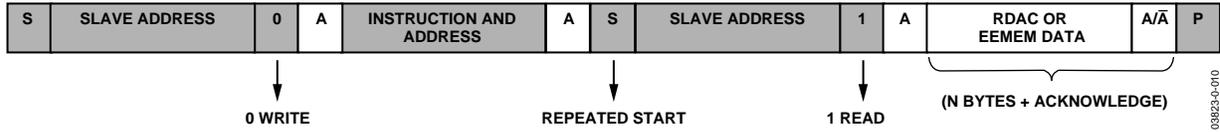
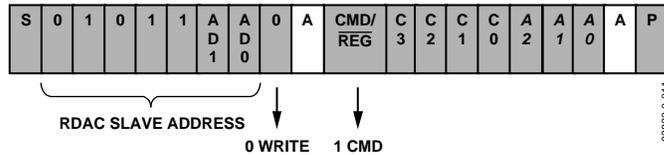
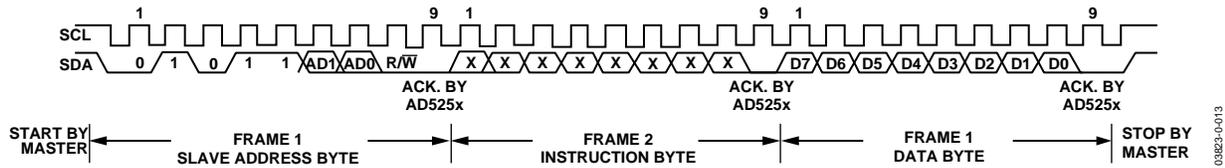
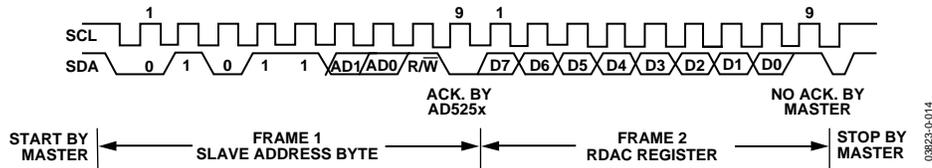

Figure 30. RDAC or EEMEM Random Read
Figure 31. RDAC Quick Command Write (Dummy Write)
Figure 33. General I²C Write Pattern
Figure 34. General I²C Read Pattern
Figure 30 illustrates a random RDAC or EEMEM read operation. This operation allows users to specify which RDAC or EEMEM register is read by issuing a dummy write command to change the RDAC address pointer and then proceeding with the RDAC read operation at the new address location.
The AD5251/AD5252 feature 12 quick commands that facilitate easy manipulation of RDAC wiper settings and provide RDAC-to-EEMEM storing and restoring functions. The command format is shown in Figure 31, and the command descriptions are shown in Table 9.
The first byte of the AD5251/AD5252 is a slave address byte (see Figure 33 and Figure 34). It has a 7-bit slave address and an R/W bit. The 5 MSB of the slave address is 01011, and the next 2 LSB is determined by the states of the AD1 and AD0 pins. AD1 and AD0 allow the user to place up to four AD5251/AD5252 devices on one bus.
AD5251/AD5252 can be controlled via an I²C-compatible serial bus and are connected to this bus as slave devices. The 2-wire I²C serial bus protocol (see Figure 33 and Figure 34) follows:
1. The master initiates a data transfer by establishing a start condition, such that SDA goes from high to low while SCL is high (see Figure 33). The following byte is the slave address byte, which consists of the 5 MSB of a slave address defined as 01011. The next two bits are AD1 and AD0, I²C device address bits. Depending on the states of their AD1 and AD0 bits, four AD5251/AD5252 devices can be addressed on the same bus. The last LSB, the R/W bit, determines whether data is read from or written to the slave device. The slave whose address corresponds to the transmitted address responds by pulling the SDA line low during the ninth clock pulse (this is called an acknowledge bit). At this stage, all other devices on the bus remain idle while the selected device waits for data to be written to or read from its serial register.
the addresses of the EEMEM and RDAC registers (see Figure 27 and Figure 28). When MSB = 1 or when the device is in CMD mode, the four bits following the MSB are C3 to C1, which correspond to 12 predefined EEMEM controls and quick commands; there are also four factory-reserved commands. The 3 LSB—A2, A1, and A0—are addresses, but only 001 and 011 are used for RDAC1 and RDAC3, respectively (see Figure 31). After acknowledging the instruction byte, the last byte in the write mode is the data byte. Data is transmitted over the serial bus in sequences of nine clock pulses (eight data bits followed by an acknowledge bit). The transitions on the SDA line must occur during the low period of SCL and remain stable during the high period of SCL (see Figure 33).
3. In current read mode, the RDAC0 data byte immediately follows the acknowledgment of the slave address byte. After an acknowledgement, RDAC1 follows, then RDAC2, and so on. (There is a slight difference in write mode, where the last eight data bits representing RDAC3 data are followed by a no acknowledge bit.) Similarly, the transitions on the SDA line must occur during the low period of SCL and remain stable during the high period of SCL (see Figure 34). Another reading method, random read method, is shown in Figure 30.
4. When all data bits have been read or written, a stop condition is established by the master. A stop condition is defined as a low-to-high transition on the SDA line that occurs while SCL is high. In write mode, the master pulls the SDA line high during the 10th clock pulse to establish a stop condition (see Figure 33). In read mode, the master issues a no acknowledge for the ninth clock pulse, that is, the SDA line remains high. The master brings the SDA line low before the 10th clock pulse and then brings the SDA line high to establish a stop condition (see Figure 34).